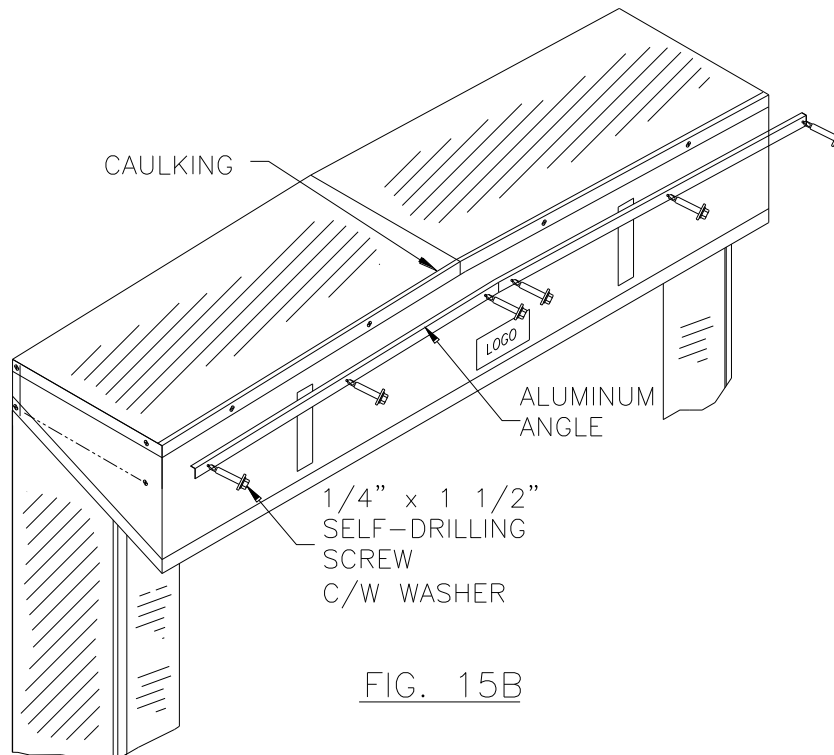

FIG. 15B
- b. **Reattach Aluminum Angle** to front edge of Head Frame (Figure 15b).